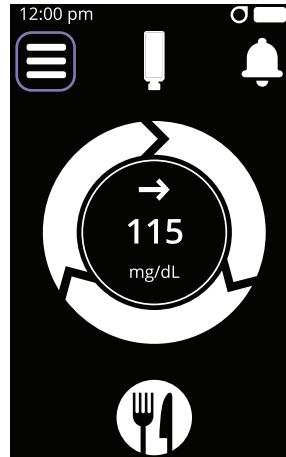

Figure 93
- From the **Home** screen, tap the **Menu** icon in the upper left corner (see Figure 93).